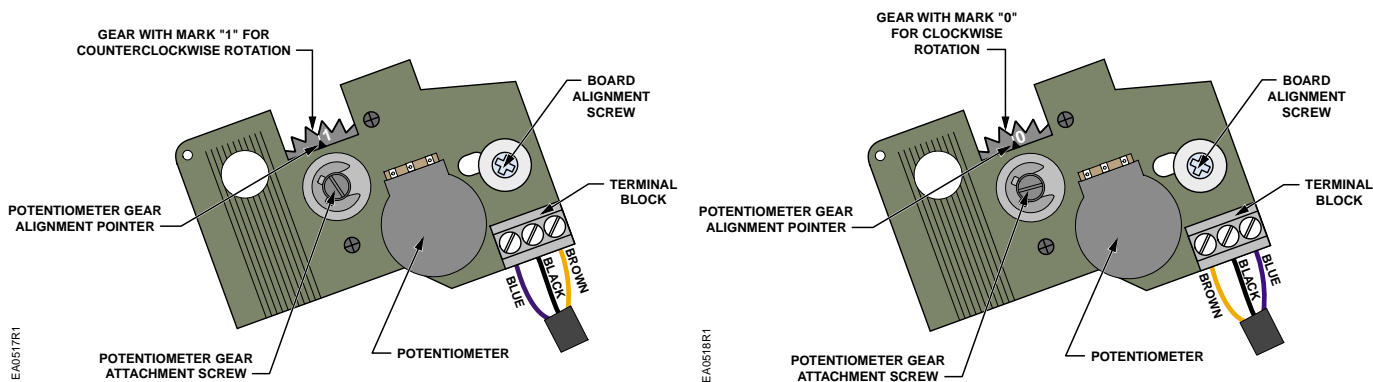

Figure 17. Reversing Rotational Direction on the ASZ Potentiometer Board.
5. See *Figure 17*. Disconnect the blue and brown wires from the terminal block located on the ASZ... potentiometer circuit board.
9. See *Figure 17*. Loosen the black potentiometer gear attachment screw approximately one turn. Gently wedge a small screwdriver between the potentiometer gear and the gray plastic housing. Gently twist the screwdriver until the potentiometer gear releases from the cam drum shaft.
2. Disconnect the blue, black and brown wire from the potentiometer terminal block. See *Figure 17*.
2. Align the board alignment screw hole in the potentiometer board and install the board alignment screw. See *Figure 17*.
4. Manually rotate the potentiometer gear until the white line next to the "0" or "1" mark on the potentiometer gear face is **exactly** in alignment with the potentiometer gear alignment pointer. See *Figure 17*. For counterclockwise (ccw) operation the line beside the "1" mark must exactly align with potentiometer gear alignment pointer. For clockwise (cw) operation the line beside the "0" mark must exactly align with potentiometer gear alignment pointer. Firmly tighten the black potentiometer gear attachment screw while manually holding the potentiometer gear in alignment. Check the alignment again.